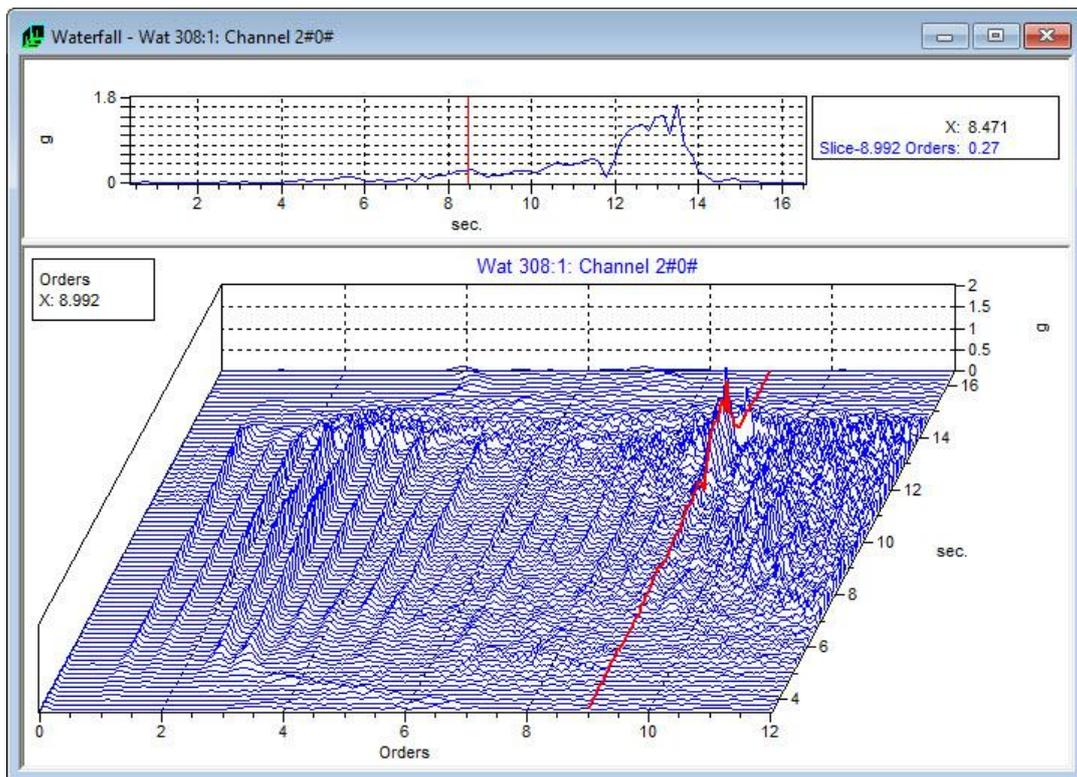

Figure 21: Waterfall Plotted in the Order Domain
3. Right-click on the waterfall, select “Properties”, select “X-axis”, and select „units = orders“. In the „Properties“ dialog box, select the “cursor” tab and change the cursor from Hz to orders. Zoom in on the plot region up to the first 12 orders, as shown in Figure 21.